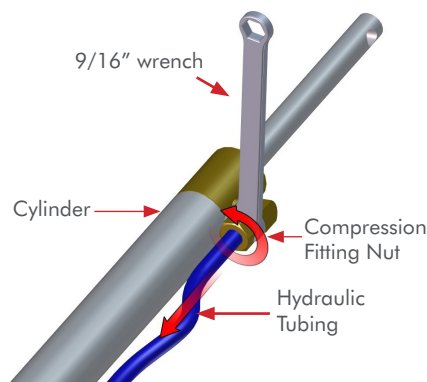

Figure 2
STEP 3 Unscrew both **Compression Fitting Nuts** with a 9/16" wrench. **FIG 2**